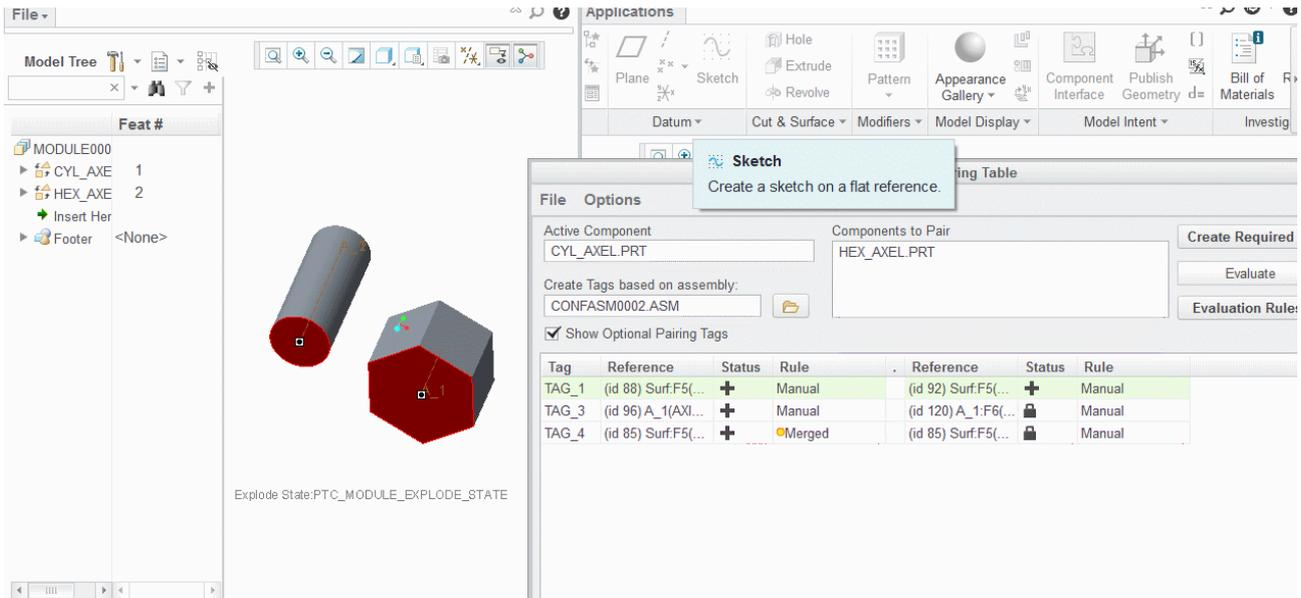

Figure 6. Resulting paring table
12) Again the reference paring table pops up. This time we see both axel components in the parts window. Select the cylinder as the Active component for paring. Examine the Tag list. The tag list from cylinder will now have to be pared to the tags of the hexagon part. Try manually to select the paring references for the cylinder tags. It might create conflicts of double information. In this case use RMB and merge the conflicting rows. After some editing the paring table should look as shown in fig. 6.